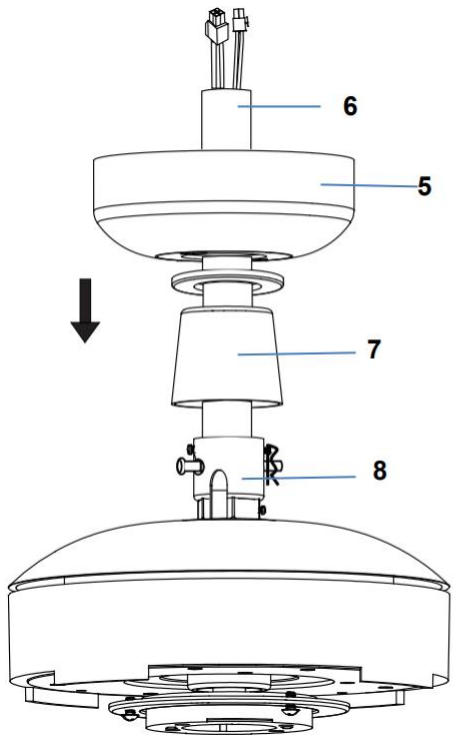

Fig. 4.5
6. Insert the decorative cover (7) onto the down rod (6) to cover the down rod coupling housing (8). (Fig. 4.5)